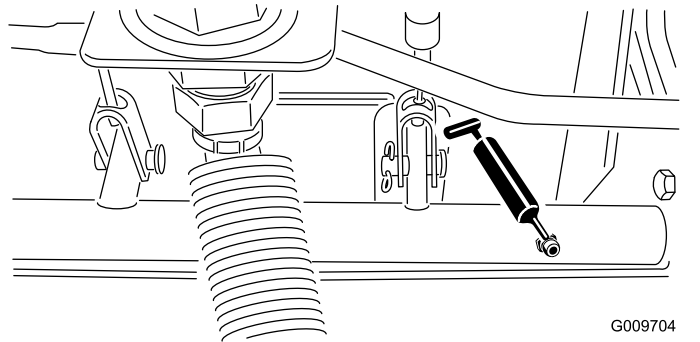

Figure 20
- Brake shaft pivot bearings (5) (Figure 20)